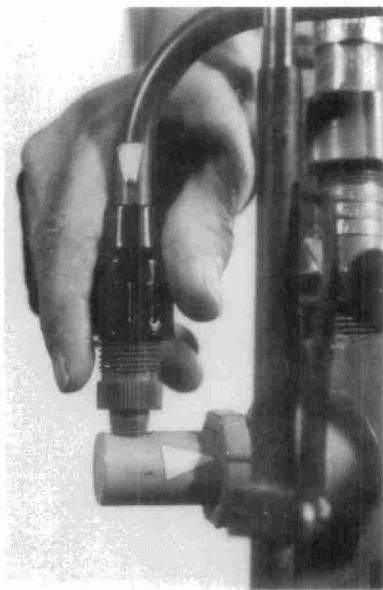

Fig. 7-1 Unscrew
- b) If there is no vacuum (or if no gauge is supplied), disconnect vacuum line at the injector, place finger and listen for "pop" caused by vacuum (See Figures 7-1 to 7-4 for procedure).